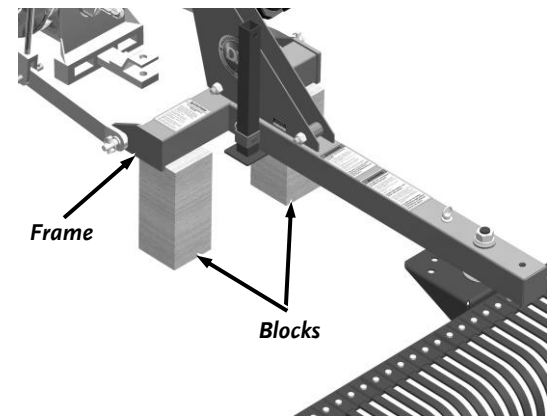

Figure 17
1. Support the DR 72" 3PT LANDSCAPE RAKE onto blocks so that the Tines are lifted off the ground. Support blocks are best placed directly under the side arm mounting points on the frame (**Figure 17**).